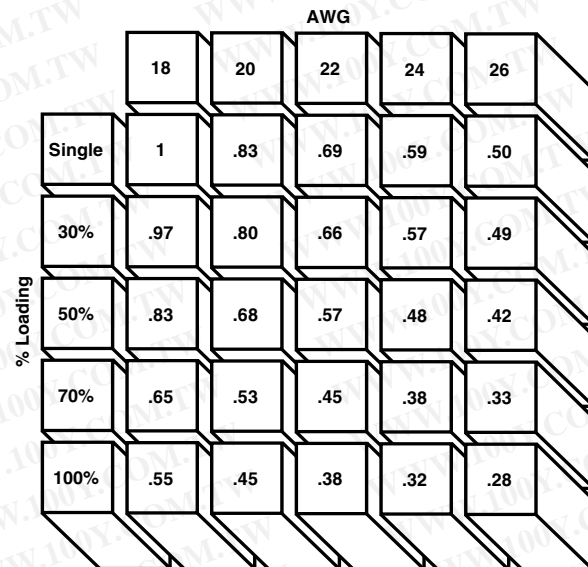

Figure 2
- Next are rating factors, a table of multipliers to account for connector loading and for smaller wire sizes (See figure 2). The designer first determines the base current for the ambient conditions of the application; then multiplies this base current by the rating factors to find the current level for the application's loading factor and wire size.
- Figure 2, the rating factor for 50% loading and 20 AWG [0.6mm²] wire is 0.68.